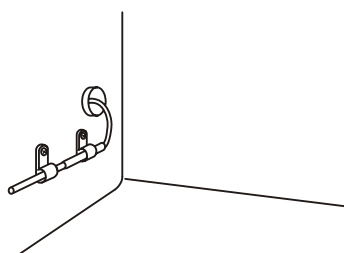

Fig. 20
7. Fix the recorder sensor to the attachment hole on the left side of the freezer by using the clips enclosed with the recorder fitting (MPR-S7: optional component). (Fig. 20)